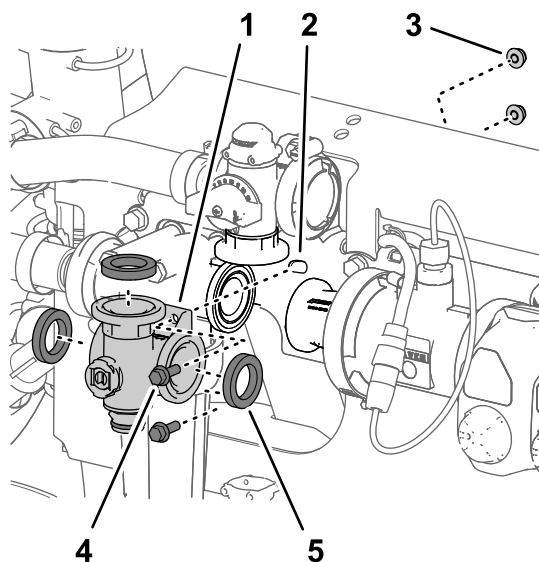

Figure 124
3. Remove the 2 flange-head bolts (1/4 x 3/4 inch) and 2 flange locknuts (1/4 inch) that secure the agitation-valve manifold to the valve support (Figure 124).
4. Remove the agitation-valve manifold and gaskets from the machine (Figure 124).